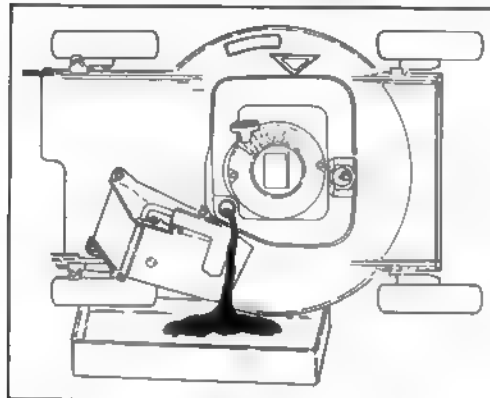

Figure 16
3. Place drain container next to right side of mower. For best results, use a flat, shallow pan (Fig. 16).
5. Tip mower on its right side, and rest it on handle and wheels (Fig. 16).